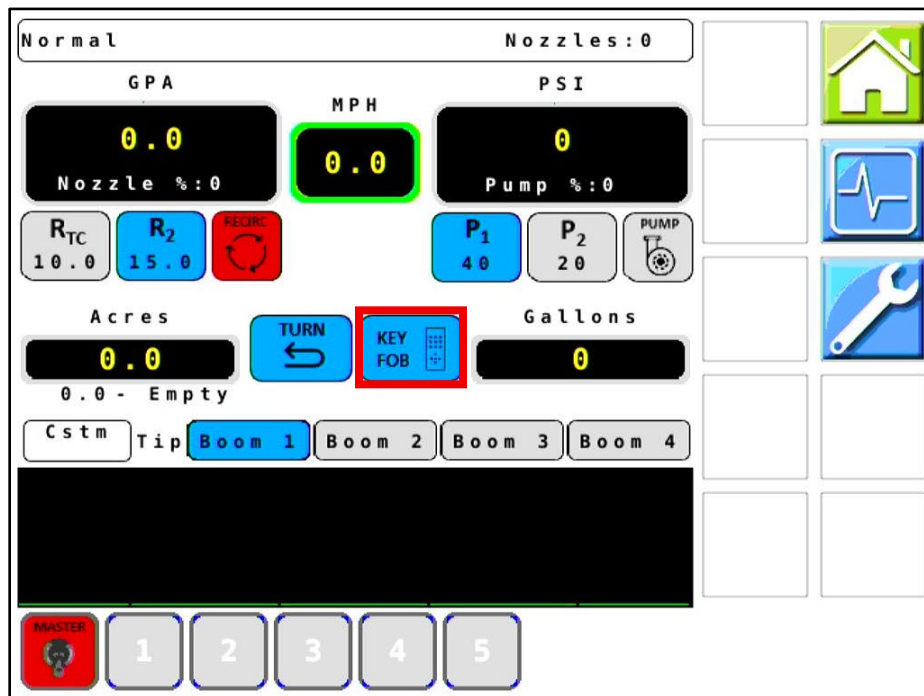

Figure 7 — Key Fob Verification
- Figure 7:** Tap the **Key Fob** icon to set key fob mode to **ON**.